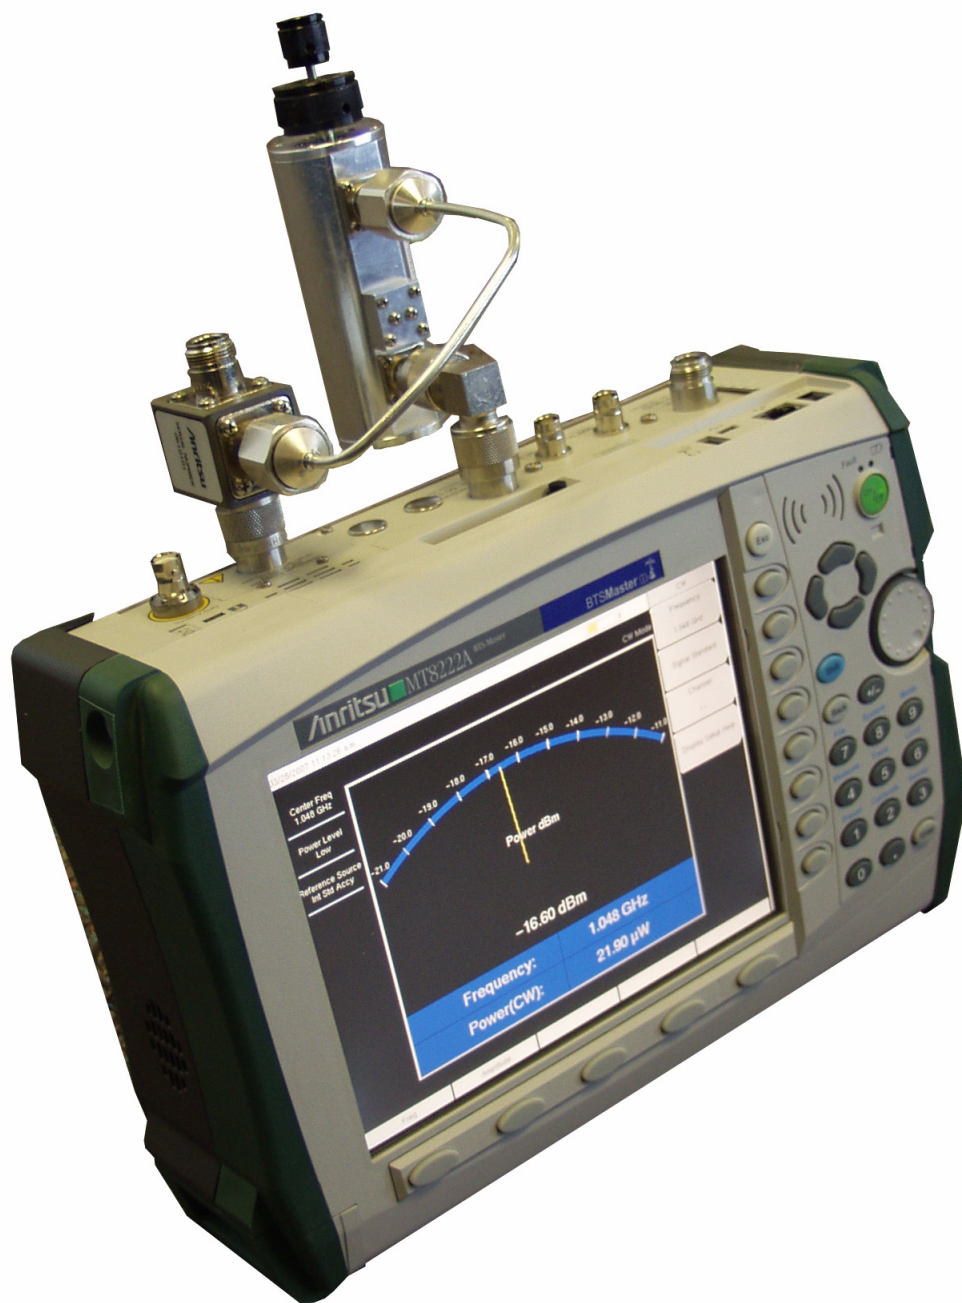

Figure 21-2. BTS Master CW Signal Generator with Attenuator and Splitter
3. Connect the attenuator to the RF Out port, and connect the splitter to the RF In port and to the DUT (device under test). Figure 21-2 shows this setup.